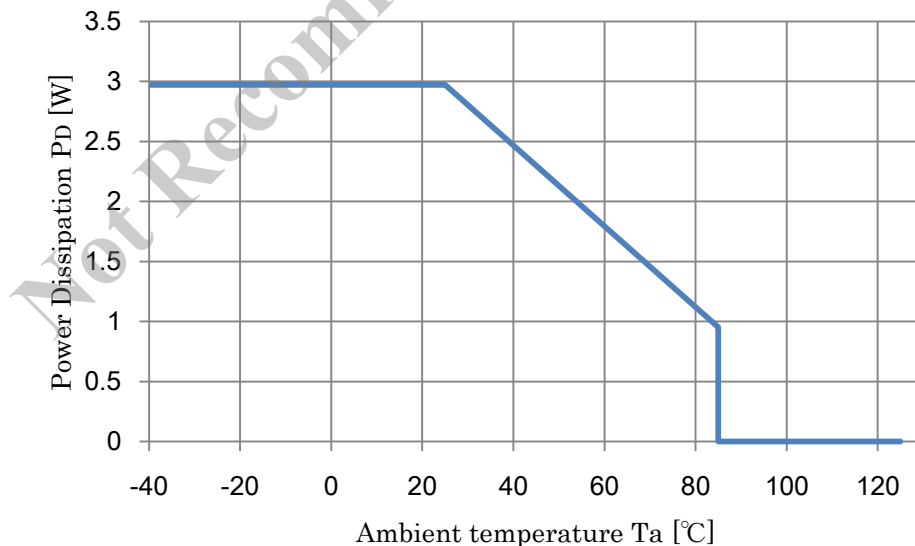

Fig. 4-1 Allowable package power dissipation of NR421A
⁽⁵⁾ To be used within the allowable package power dissipation characteristics (Fig4-1).
- 1) Because the Fig4-1 is defined in "PD=2.97[W]" at "Tj=125 [°C]", please keep enough margin when you use.
- 3) Losses can be calculated by the following equation. In addition, efficiency η_x will vary depending on the conditions of the input voltage, output current. By measuring the η_x in the actual operation, assigns a numerical value to the equation (1), as a η_x remain of percent display.